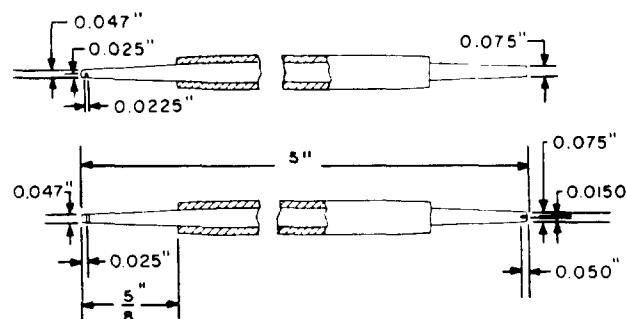

Fig. 6—638A Adjuster Tool
2.07 638A: The 638A tool (Fig. 6) is a contact aligning tool which forms a part of the 1013A tool kit. It is used in adjusting the replacement fixed contacts and twin contacts on the AF-, AG-, AJ-, and AK-type relays.